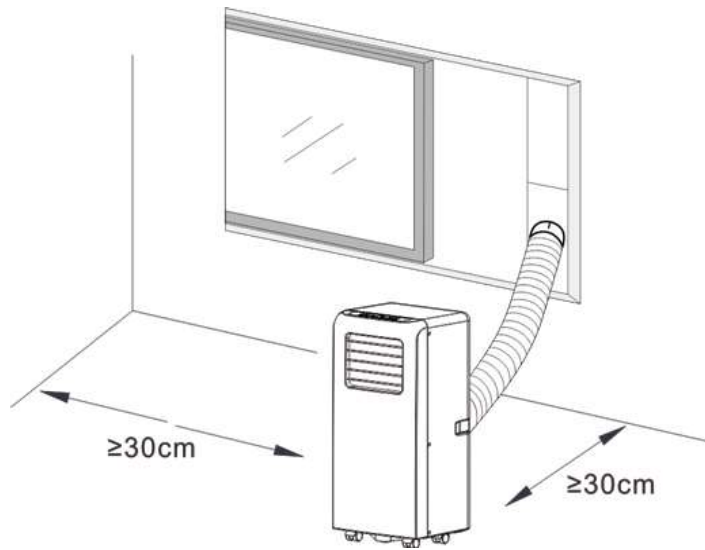

Fig.3
- The air-conditioner shall be installed in the flat and with empty place all around. Don't block the air outlet, and keep 30cm safety distance all around the unit. (See Fig.3)